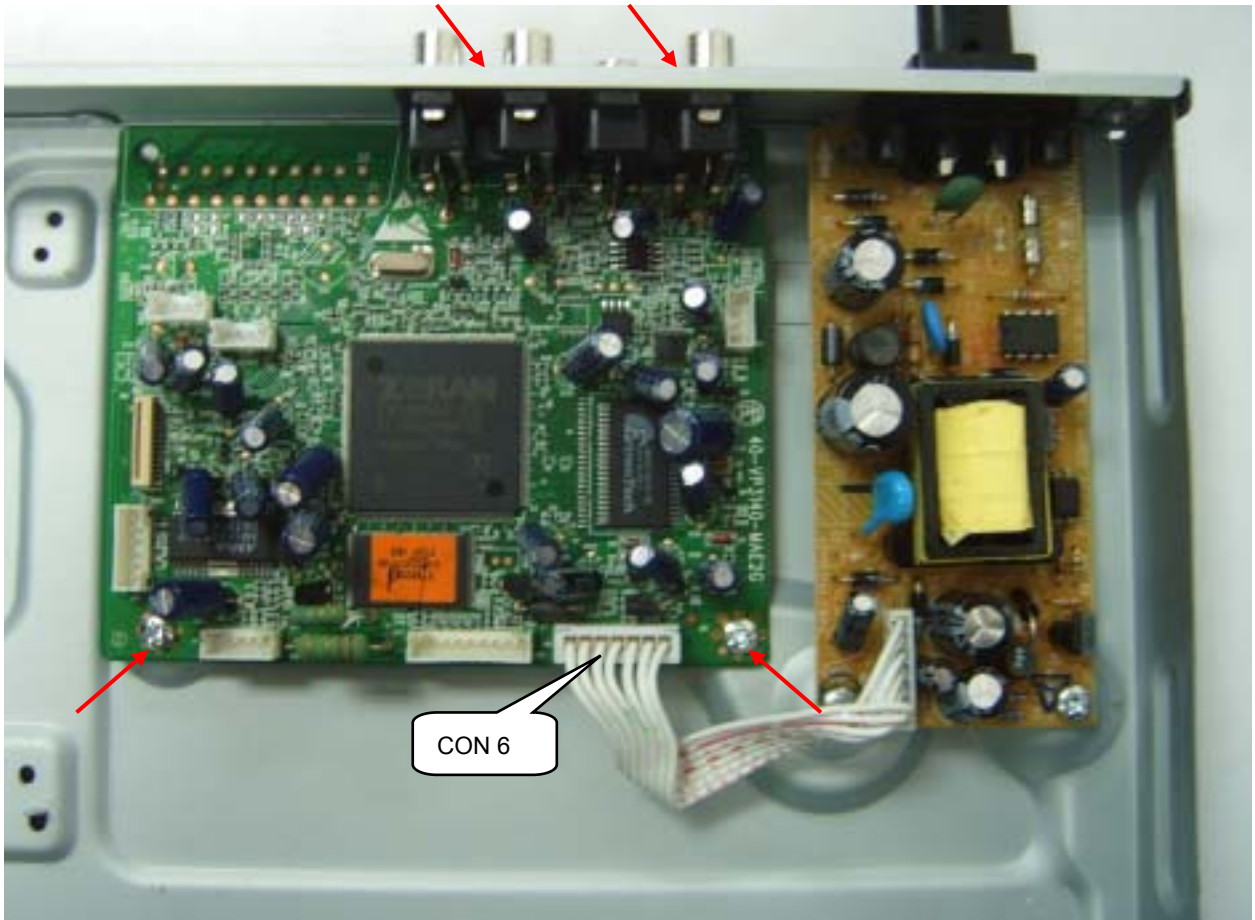

Figure 8
Step6: Dismantling Main Board, first disconnect the connector, and then remove 4 screws. (Figure 8)